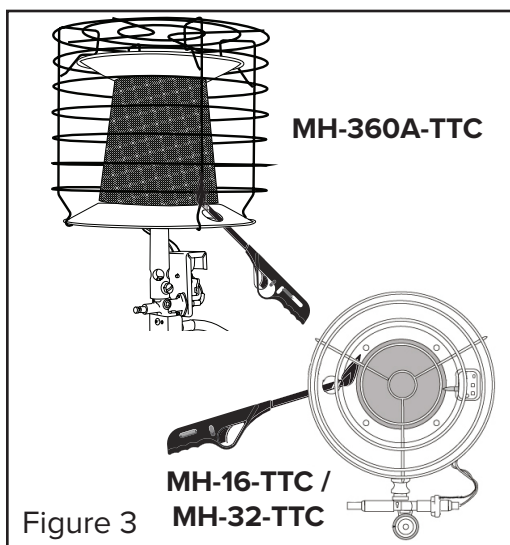

Figure 3
6. Insert a lit match into the ignition hole in the reflector. (See Figure 3 and 4)
7. Press the safety shut-off valve plunger for five (5) seconds.